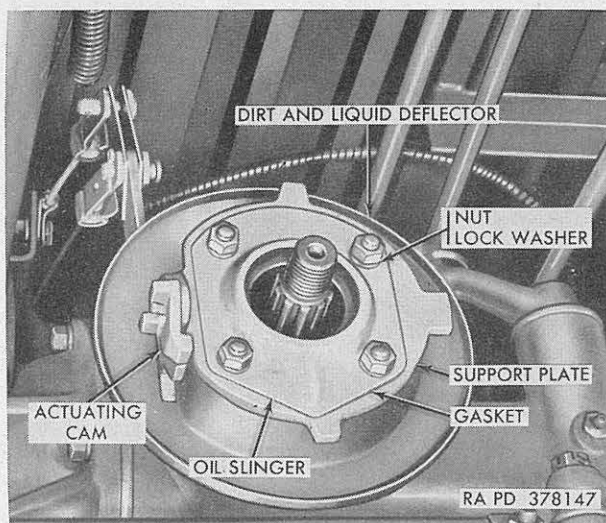

Figure 76. Brake with band removed.
- (4) Pull actuating cam (fig. 76) off brake support plate and from between ends of brake band. Remove four nuts and lockwashers, and remove oil slinger, gasket, brake support plate, and second gasket in order named.
carrier with brake lever through slot in deflector. Install gasket (fig. 76) on studs against deflector. Work brake support plate into hole in end of brake lever and onto studs. Position gasket and oil slinger on studs against support plate and secure with four  $\frac{3}{8}$ -inch lockwashers and  $\frac{5}{16}$ -24NF hex nuts.